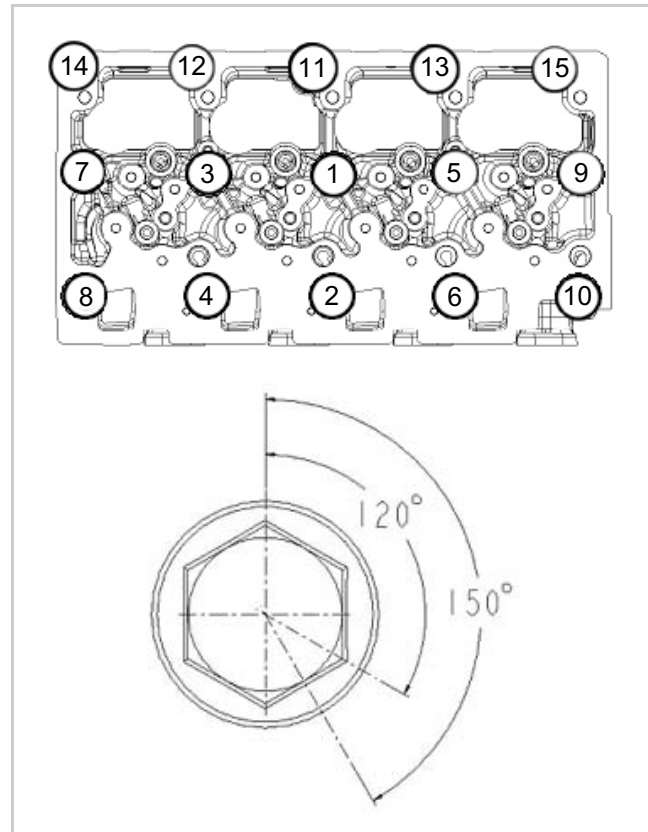

Fig. 14 (32282)
6. See Figure 14. Torque the large diameter cylinder head cap screws numbered 1 through 10 to 110 N m (81 ft lb) in the sequence shown.